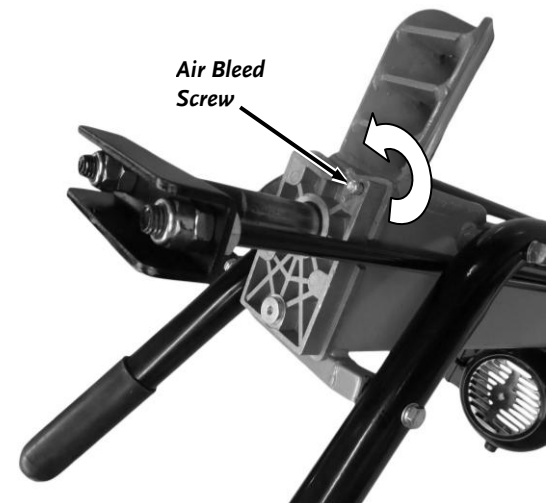

Figure 4
- It is important that the Air Bleed Screw is open when you use the Electric Log Splitter (**Figure 4**). Open the Air Bleed Screw by turning it counter-clockwise three to four times. Failure to open the Air Bleed Screw before using could damage the Electric Log Splitter.
1. Prior to using the Electric Log Splitter, open the Air Bleed Screw by turning the Thumbscrew counter-clockwise three to four times (**Figure 4**). **Leave the Air Bleed Screw open in this position while using the machine.** We recommend closing the Air Bleed Screw after each use, but you can leave the Air Bleed Screw open when you are finished.